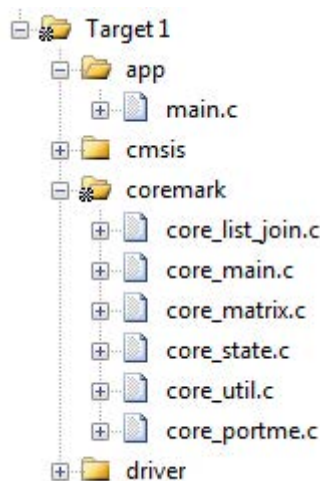

Figure 6. An example project with CoreMark source files on µVision IDE
- 2) Add CoreMark source files (see Figure 6) in your Makefile or preferred IDE (GCC, IAR embedded workbench IDE, Keil µVision IDE).